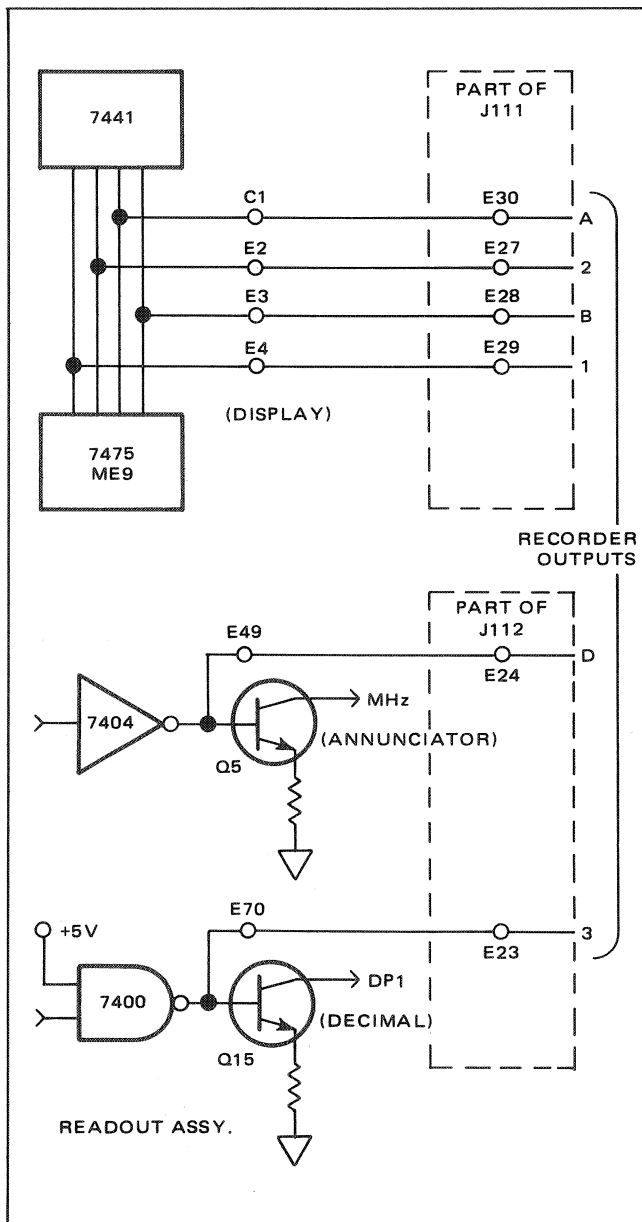

Figure 3.2 - Recorder Output Circuits
3.4 The recorder output, in both options, is taken directly from the Readout Assembly. Physically, it consists of a cable from the readout to connectors J111 and J112 of the rear panel. Electrically, the output is taken from TTL integrated logic outputs. These outputs are also used to drive other logic on the Readout assembly. Typical Recorder drive circuits are shown in figure 3.2 and described in the following paragraphs.